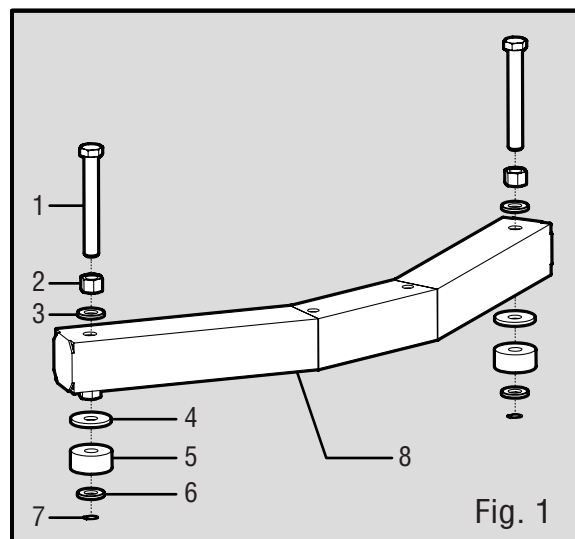

Fig. 1
ATTACHING FEET TO BASE (FIG. 1)
1. Locate one base (Fig. 1 - 8).
2. Install two M10 washers (Fig. 1 - 3), two M12 hex nuts (Fig. 1 - 2), and two M12X100 hex bolts (Fig. 1 - 1) through the top of the base on each side.
3. Add two M12 washers (Fig. 1 - 4), two rubber feet (Fig. 1 - 5), two M10 washers (Fig. 1 - 6), and two clips (Fig. 1 - 7) to the bolts through the base on each side.